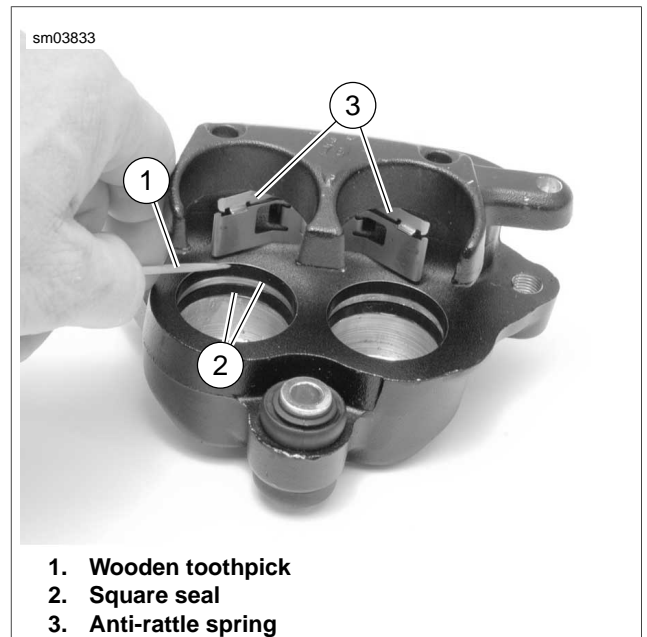

Figure 2-78. Seals and Spring
5. See Figure 2-78. Using a wooden toothpick (1), remove two square seals (2) from each caliper bore. Discard all removed parts.
6. Pull anti-rattle spring (3) straight out to remove.
2. See Figure 2-78. Install two **new** square seals (2) into each piston bore. Use a wooden toothpick (1) to aid installation if needed.
3. Install anti-rattle spring (3). Ensure it is oriented correctly.